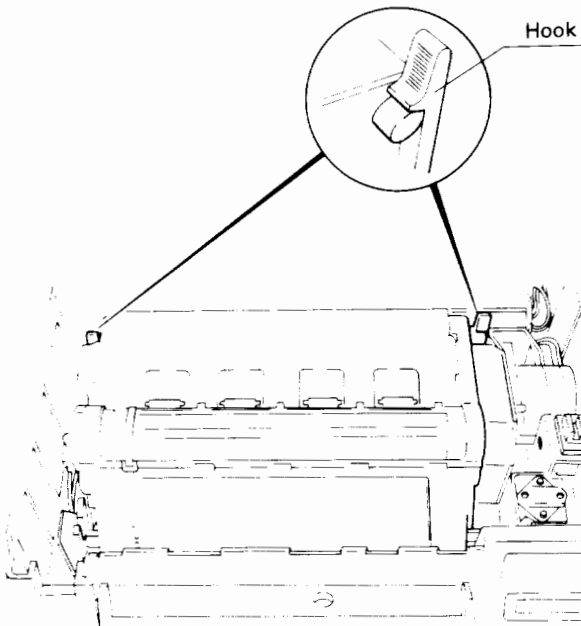

Figure 7-14 Locking the process cartridge into place
3. When the pins reach the bottom of the grooves, press down on the handles until both retaining clips snap the process cartridge into its locked position. See Figure 7-14.